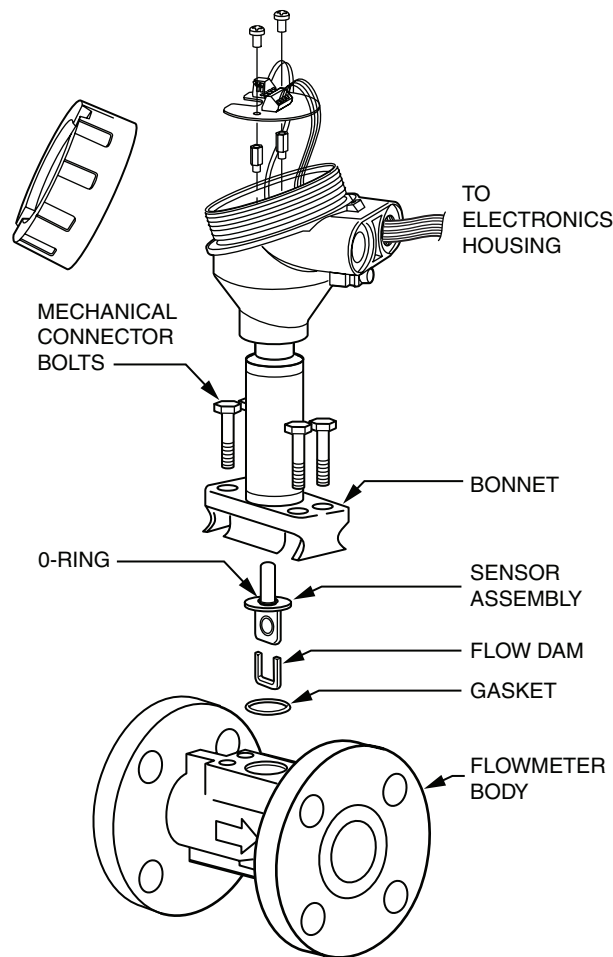

Figure 60. Sensor Replacement - Remotely Mounted Flowmeter
Refer to Figure 60.
5. Insert the sensor with the bonnet into the flowmeter body and secure with four **new** bonnet bolts finger tight. See Figure 60.